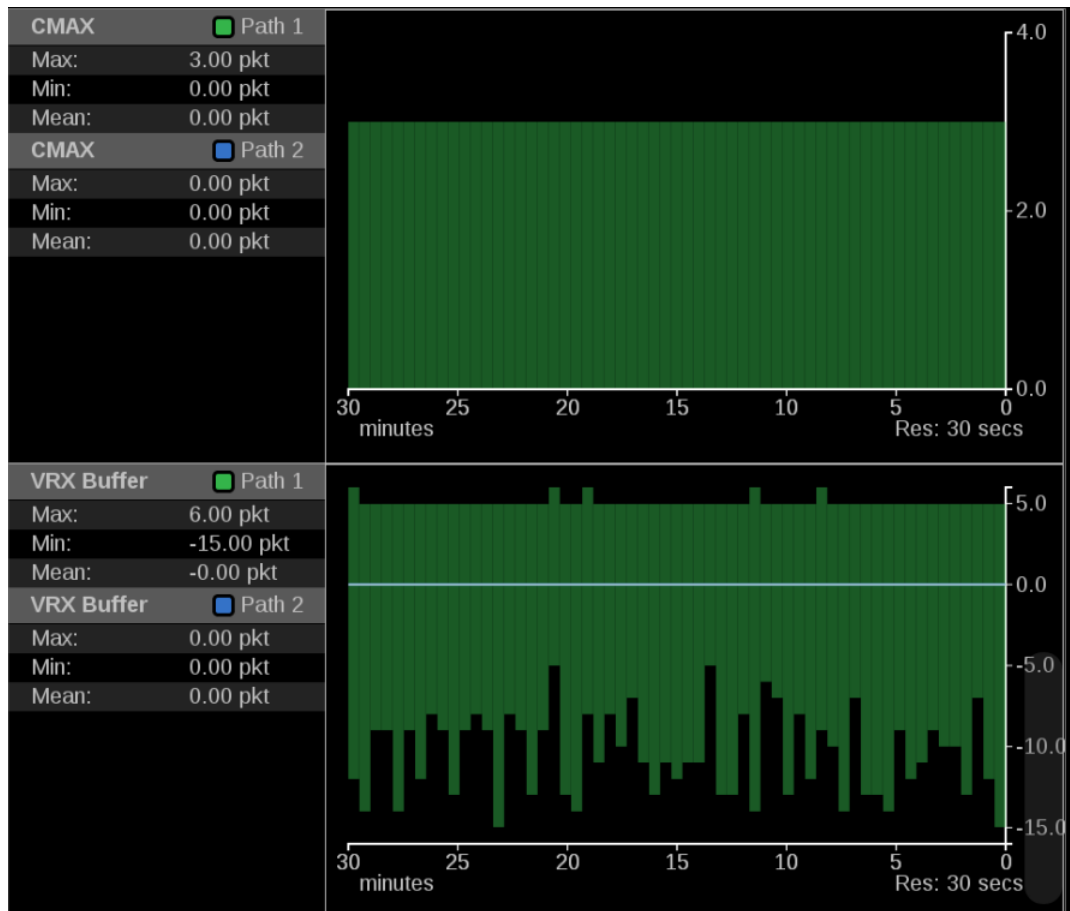

Figure 159: IP Graphs application – CMAX and VRX Buffer graph
- A network compatibility model to regulate the burst characteristics of senders, which promotes the compatibility with the switches. The CMAX section provides a trend graph for this type of modeling. (See Figure 159.)